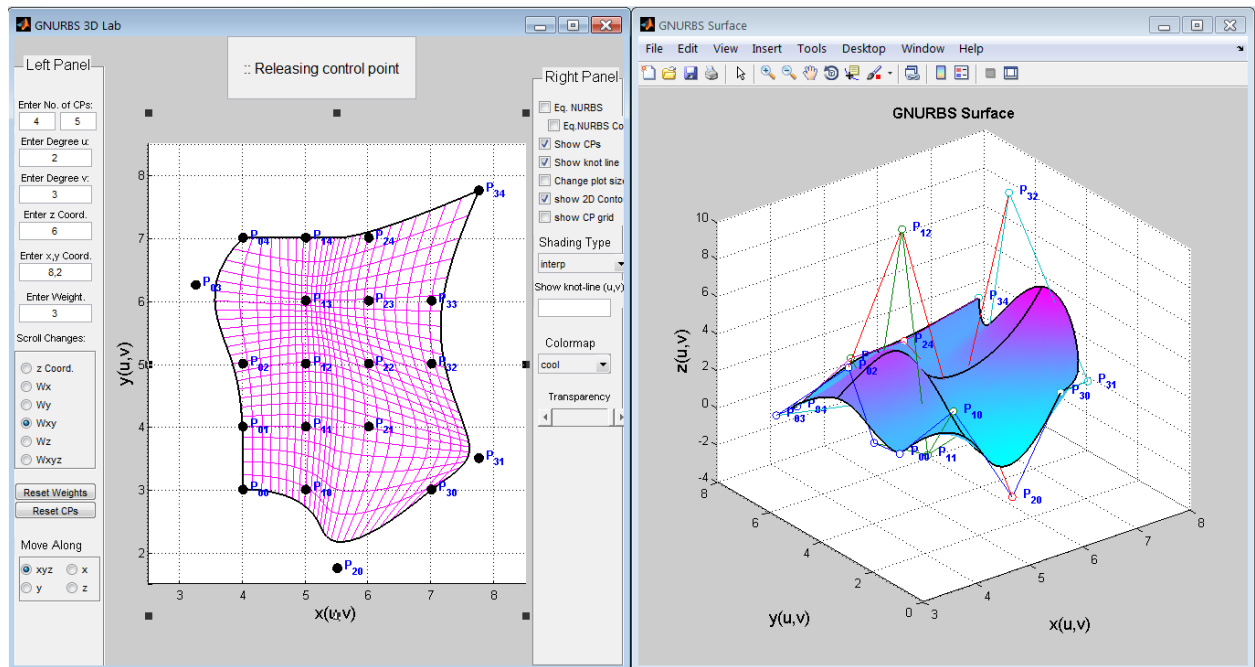

**Figure 26:** Changing the shading type of the GNURBS surface from the “*Shading Type*” dropdown menu.
The shading type of the GNURBS surface can be changed by selecting the appropriate type from the “*Shading Type*” dropdown menu (19) in the right panel of the 2D window. There are three different shading types available, namely ‘*flat*’, ‘*faceted*’ and ‘*interp*’ in this menu (Figure 26).